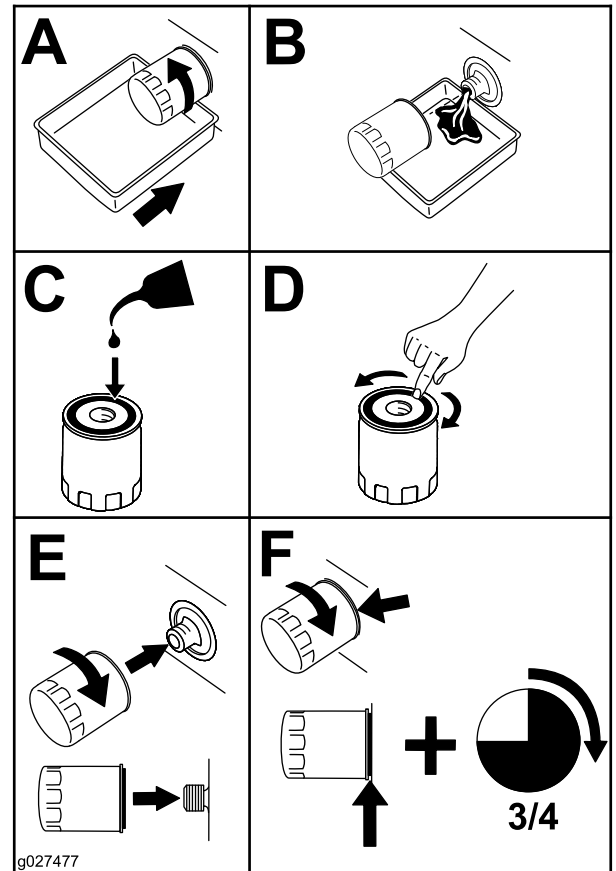

Figure 69
6. Replace the engine-oil filter as shown in Figure 69.